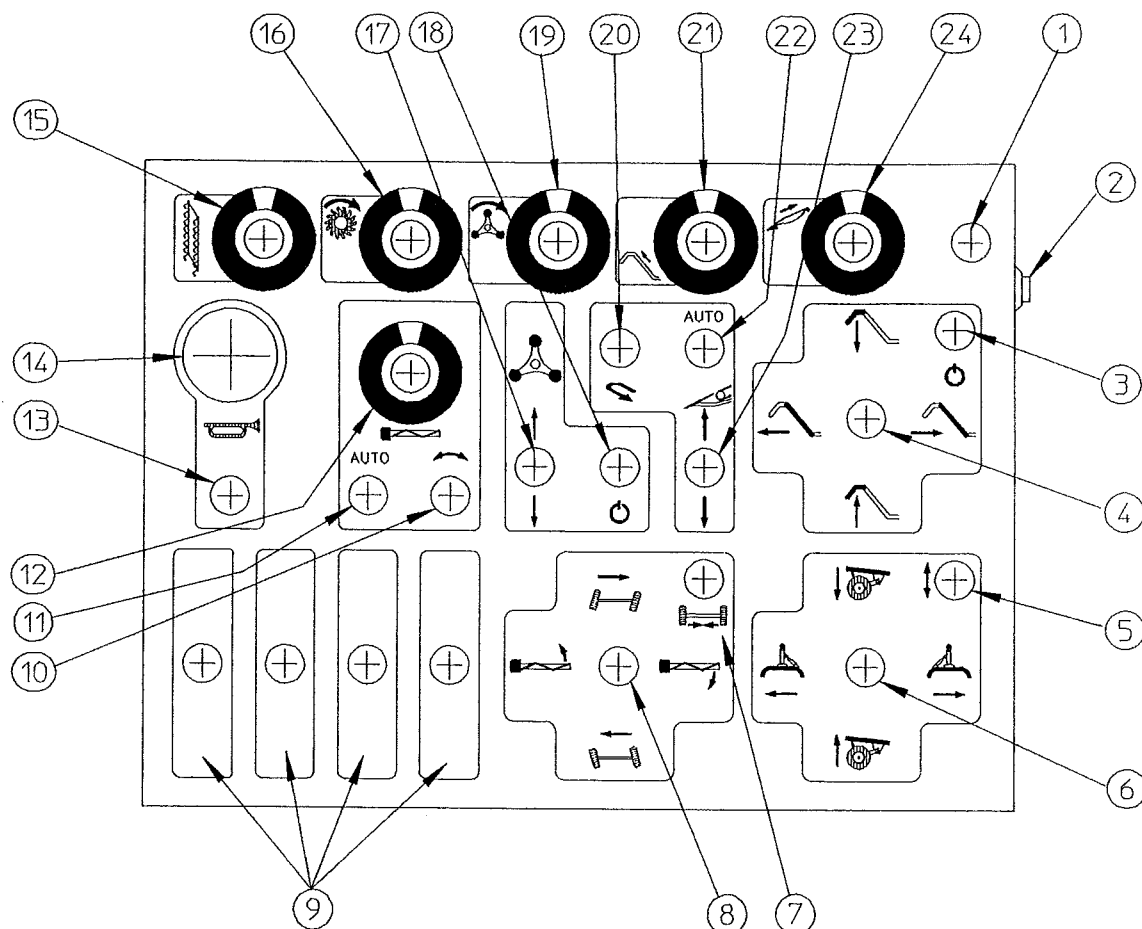

fig 4.2
When the machine is being towed along public roads, the red on/off power button (fig 4.2 item 1) must be in the off position to avoid any risk of the control switches being accidentally activated.
Explanation of control switches (See fig 4.2 for layout of driver's control box).